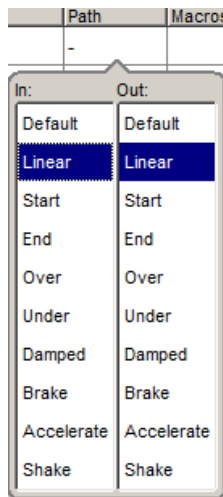

Figure 20.3. Selecting a Path in a Cuelist Window
2. Choose a path from the displayed list; see *Figure 20.3, "Selecting a Path in a Cuelist Window"*.